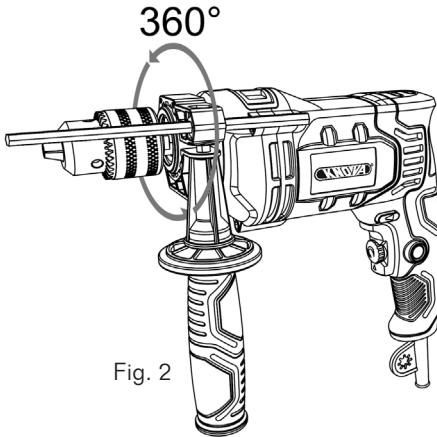

Fig. 2
- Adjust the position of the handle to suit the application. The auxiliary handle can be swiveled 360° (See fig.2)